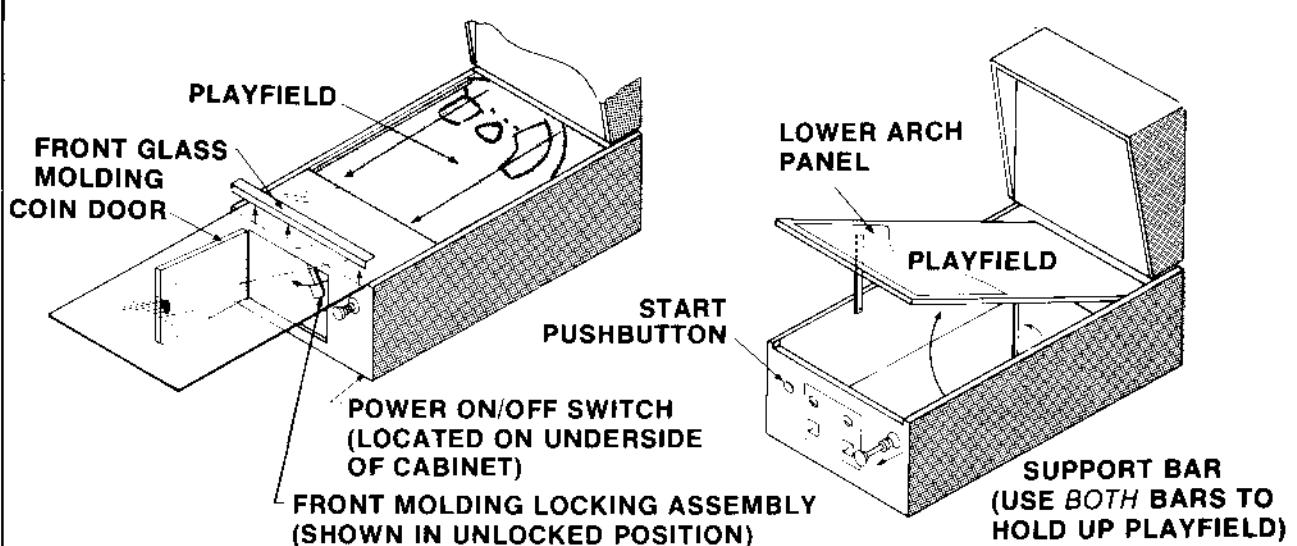

**Figure 1-1 Attaching Legs without Pin Jack**
*If you don't have a Pin Jack—Refer to Figure 1-1 and follow the instructions.*